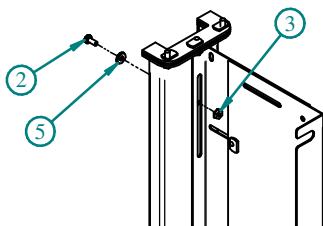

FIG. 4
- INSTALL SCREW, SEALING WASHER AND NUT AS SHOWN IN FIG. 4